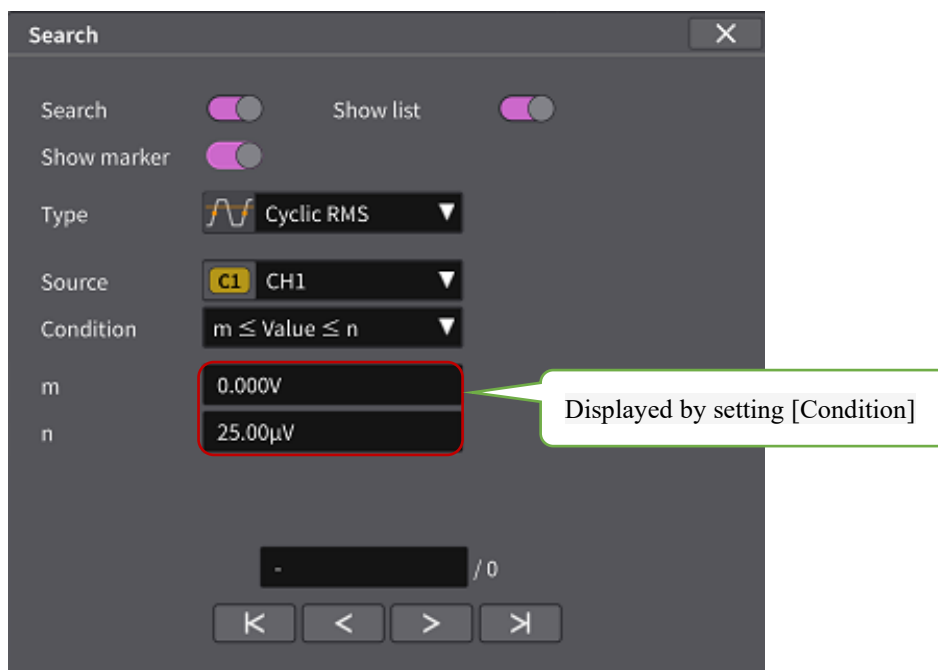

Figure 2.96 Settings Window when the Cyclic RMS is selected as the Search Type
- When the list selection is Cyclic RMS / Cyclic Mean / Frequency / Period / Duty Cycle /, it will be explained in the Settings Window of Figure 2.96.